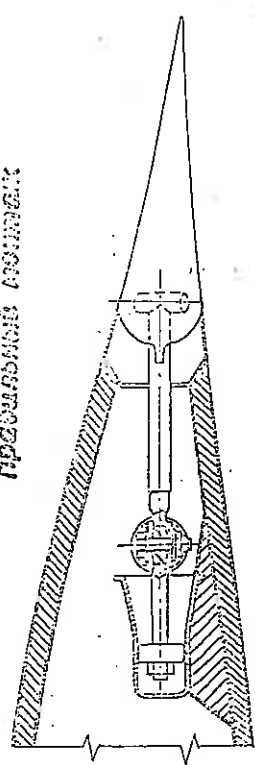
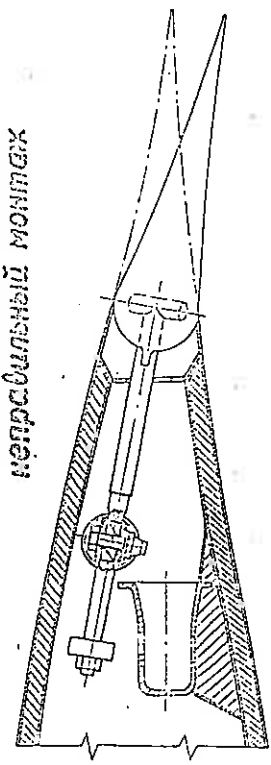

Fig. 1
Fig. 2
1. At each DI the ailerons should be visually checked for correct assembly as shown in figures 1 and 2 of the PZL-Bielsko Bulletin BE-039/90 which forms part of this AD.
The sketches Fig. 1 and Fig. 2 show the correctly and incorrectly assembled aileron control levers.